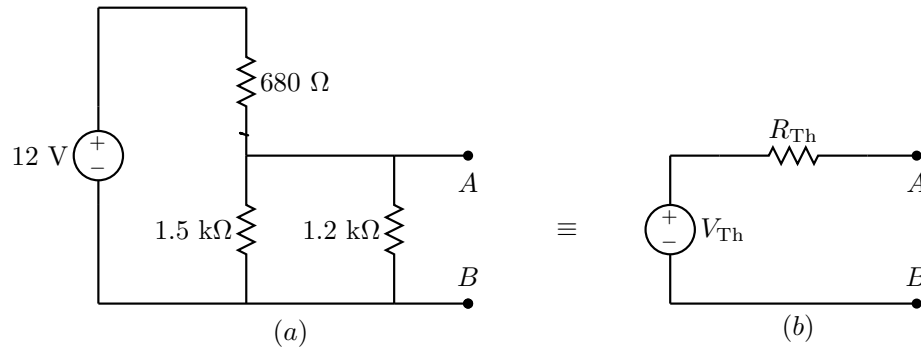

Figure 2: (a) Original circuit, (b) Thévenin Equivalent circuit
Thévenin theorem is an important concept for electrical circuit analysis. The theorem states that any two-terminal network of resistors and voltage sources can be represented by just one resistor  $R_{Th}$  and a voltage source  $V_{Th}$ . Figure 2 illustrates the scenario of the Thévenin equivalent circuit.
- i. **Circuit setup for Figure 2(a).** Set up the circuit according to the circuit diagram in Figure 2(a) on the breadboard.
- iv. **Measurement of  $R_{Th}$ .** Short-circuit the DC voltage source in Figure 2(a) and measure the resistance between terminals A and B. **The measured resistance is  $R_{Th}$ .** Record the value in Table 4. According to Thévenin theorem, the Thévenin equivalent resistor can be obtained by measuring the terminal resistance of a network while short-circuiting the voltage source or open-circuiting the current source inside.
- v. **Calculation of  $R_{Th}$ .** Short-circuit the DC voltage source in Figure 2(a). **Calculate the resistance between terminals A and B, which is the calculated  $R_{Th}$ .** Record the value in Table 4.
- vi. **Obtain the  $I_{1k\Omega}$  in original circuit.** Connect a  $1\text{ k}\Omega$  resistor to terminals A and B in Figure 2(a). Use a multimeter to measure the current  $I_{1k\Omega}$  through this  $1\text{ k}\Omega$  resistor. Record the value in Table 5.
- vii. **Obtain the  $I_{1k\Omega}$  in Thévenin equivalent circuit.** Set up the circuit according to the circuit diagram in Figure 2(b) on the breadboard. Use the calculated  $V_{Th}$  and  $R_{Th}$  for the setup. Connect a  $1\text{ k}\Omega$  resistor to terminals A and B. Use a multimeter to measure the current  $I_{1k\Omega}$ . Record the value in Table 5.
ii. Based on the comparison of the current through the 1 k $\Omega$  resistor in both configurations, is it sensible to use the circuit in Figure 2(b) to replace the one in Figure 2(a) if we would like to study any linear network connected between terminals A and B? State your reason(s).
You need to use the LTSpice to simulate both circuits in Figure 2 and verify your results. Once again, please include relevant screenshots from the LTSpice simulations in your report. Include a short description of the PSpice’s output below: